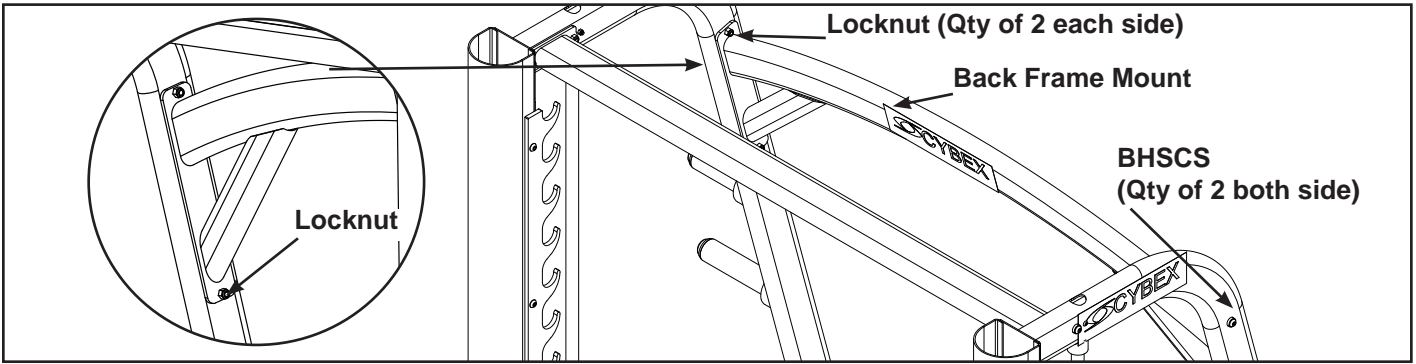

Figure 3
- E. Place back frame mount in position. See Figure 3.
F. Using a 7/32" Allen wrench and a 9/16" secure back frame mount to frame with the four BHSCS and locknuts from shipping package. See Figure 3.